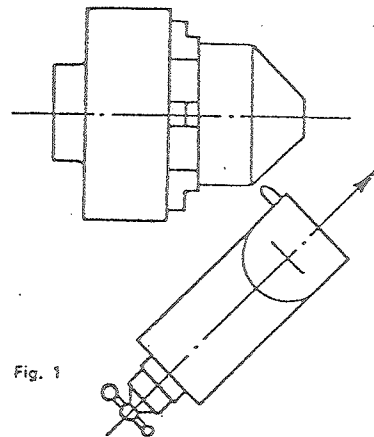

Fig. 1
Methods of Taper Turning and Boring. Three general methods are applicable. (1) As shown in fig. 1, by means of swivelling the compound rest to the angle required for either boring or turning. This method is by hand traverse of the tool, and is limited to the length of movement of the top slide, but it has the advantage that taper surfaces of any angle can be machined.